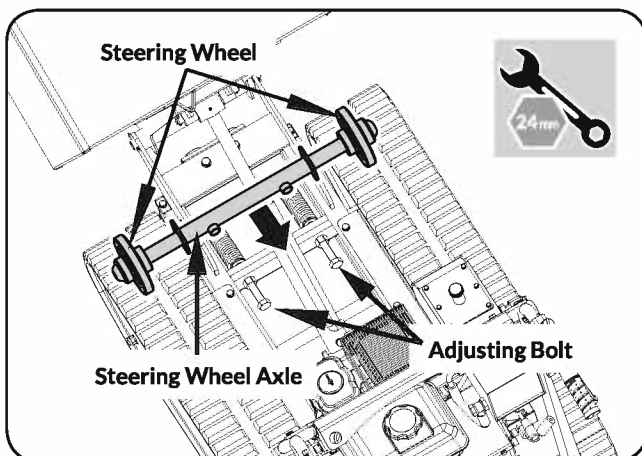

Figure 11d
- Loosen the adjusting bolts and pull the steering wheel axle toward the engine, then track will be loosen. (See **Figure 11d**)